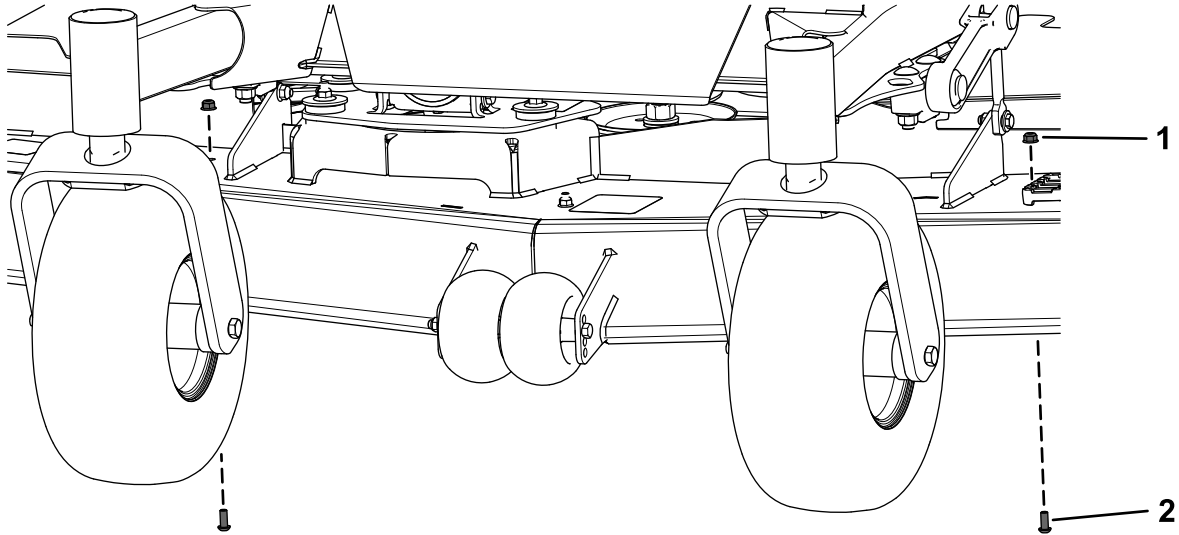

Figure 14
2. Remove the 2 button-head bolts (5/16 x 3/4 inch) and 2 flange nuts (5/16 inch) from the front of the mower deck (Figure 14).